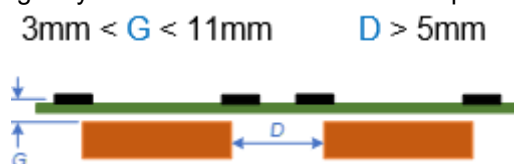

Figure 3. Installation Instructions
4. Better displacement error performance compared with traditional coreless designs. For each phase, 2 TI coreless current sensors at different locations are used to measure the magnetic field at the same time, which offers more information about the total magnetic field and therefore allows the TI design to be more robust with cross-talk and displacement errors. TI recommends leaving 3mm-11mm distance between the busbar and device, for both insulation requirement and better SNR, which is shown in Figure 3. Based on this structure, any vibration on the vehicle causing the distance changing has minimum impact on the magnetic field amplitude, adding very limited error on the sensor output.